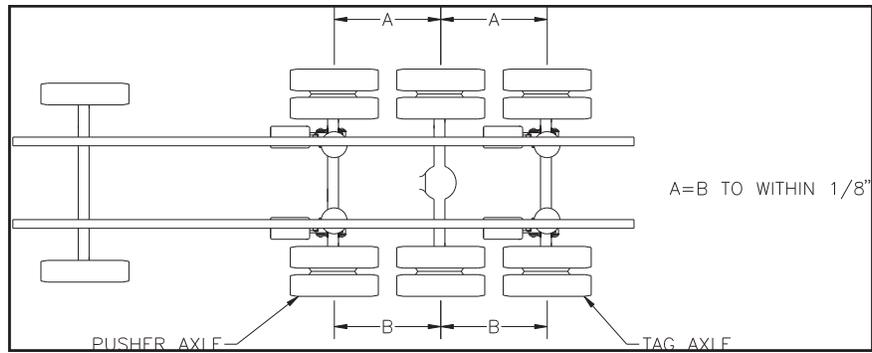

Figure 7-2
3. For pusher application, measure from the truck front drive axle (or rear drive axle for tag axle) to the center line of the spindle of auxiliary axle. Move the free beam fore or aft until both sides are equal distance to drive spindle. A total maximum alignment tolerance of 1/8" is considered acceptable. If additional axle movement is required remove tack weld performed in step 2 and adjust axle as required. (See Figure 7-2)